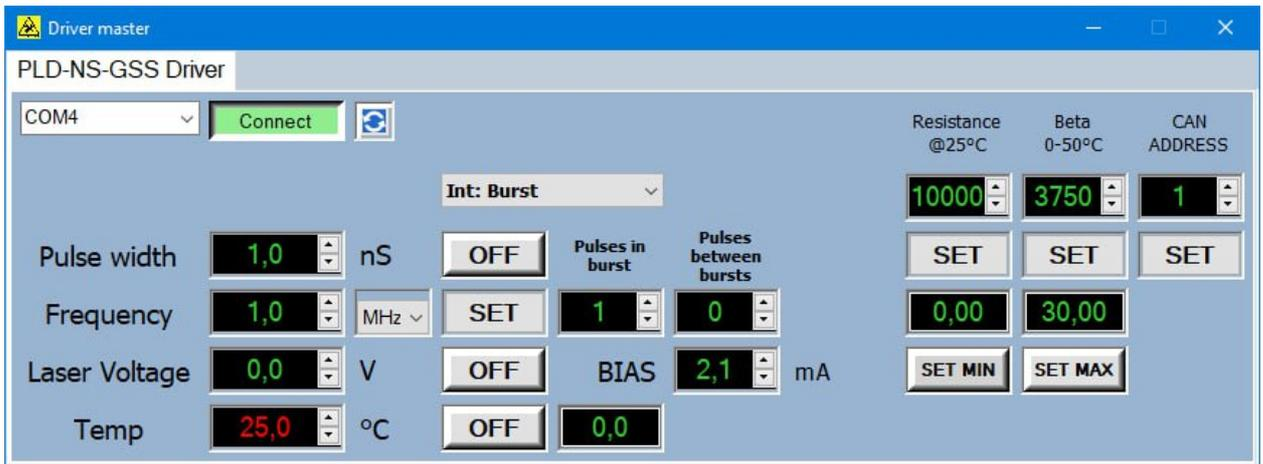

Figure 4: Burst mode.
- To set the **parameters of the burst mode**, choose, select external or internal burst mode in the operating mode drop-down menu (fig. 4), after that enter the required number of pulses in the burst in the corresponding setting window, then enter the required number of the skipped pulses between bursts in the corresponding setting window.